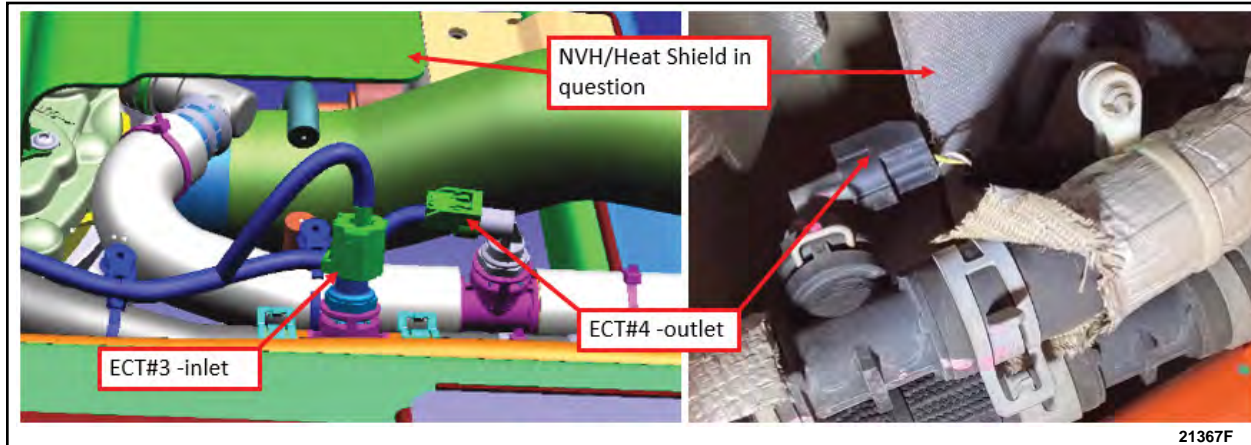

FIGURE 10
9. Inspect the front Engine Coolant Temperature (ECT) sensor connectors for any damage caused by the passenger side insulator. Is there any damage? See Figure 10.